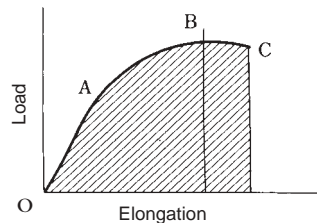
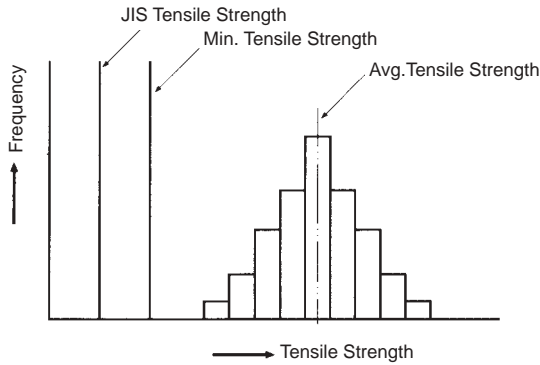

Figure 2.2 Stress-Strain Graph
Figure 2.3 Tensile Strength
As a chain is subjected to increasing stress or load, it becomes longer. This relationship can be graphed (Figure 2.2). The vertical axis shows increasing stress or load, and the horizontal axis shows increasing strain or elongation. In this stress-strain graph, each point represents the following:
Point B, shown in Figure 2.2, the maximum tension point, is also called the *ultimate tensile strength*. In some cases, point B will come at the same time as point C. After breaking a number of chains, a tensile strength graph shows a normal distribution (Figure 2.3).
The average load in Figure 2.3 is called the *average tensile strength*, and the lowest value, which is determined after statistically examining the results, is called the *minimum tensile strength*. JIS (Japanese Industrial Standard) also regulates minimum tensile strength, but it is much lower than any manufacturer's tensile strength listed in their catalogs.
- In addition to the tensile strength, the most important fact about a stress-strain graph is the value of stretch at the time of breakage. If the chain's tensile strength is higher and the capacity to stretch is greater, the chain can absorb more energy before it breaks. This means the chain won't be easily broken even if it receives unexpected shock load. (In Figure 2.2, the cross-hatched area is the value of energy that the chain can absorb before it breaks.)